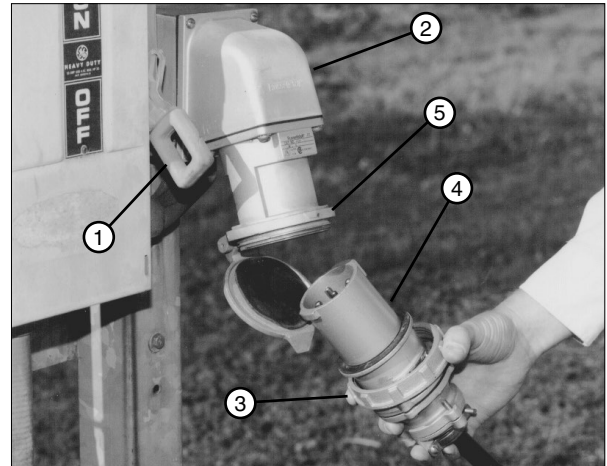

Figure 49-1 1. Disconnect Switch 2. Power Pedestal 3. Plug Cap Collar 4. Plug 5. Receptacle
- Turn the power pedestal disconnect switch to the OFF position. See Figure 49-1.
- Remove plug cap from electric cord plug, and insert the electric cord plug into the power pedestal receptacle. See Figure 49-1.